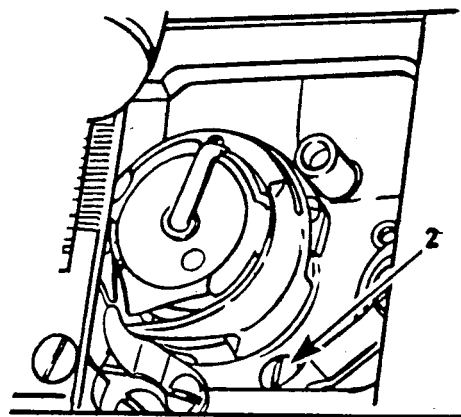

Figure 9
2. Turn control valve screw 2 shown in Figure 9 clockwise for more oil; counter-clockwise for less oil. Re-tighten control valve set screw 1.